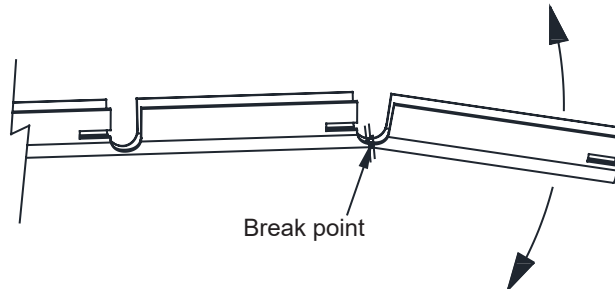

FIG. 4
1. The external sensor mounting bracket is 12 inches in length and incorporates notches placed 2 inches apart for selectable probe lengths. Only cut or break at notched area of mounting bracket as probe sensor is to be inserted into the slots placed at each notch. See Figure 4